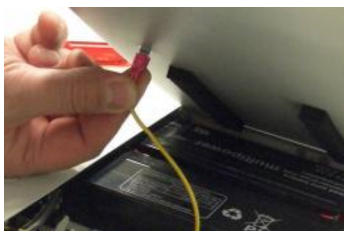

Fig. 47: Earthing plugs
6. **▶** Remove the earthing plugs from the front and rear cover (Fig. 47).